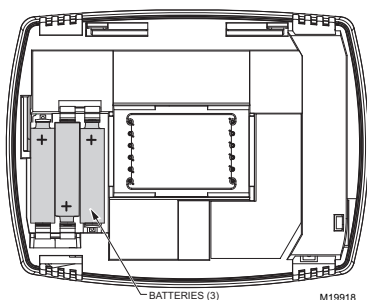

Fig. 22. Installing batteries.
1. Install three AAA alkaline batteries on the back of the thermostat as marked. See Fig. 22.